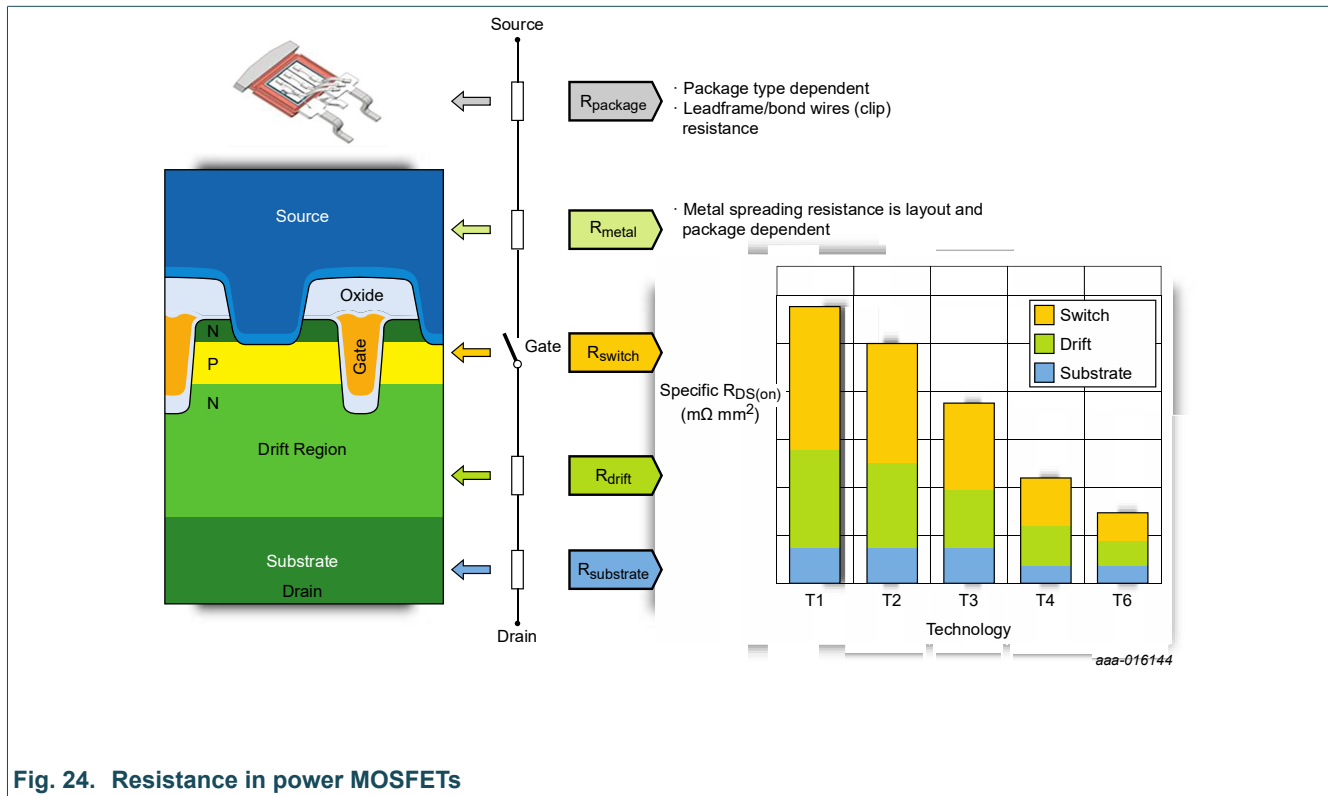

Fig. 24. Resistance in power MOSFETs
**A:** Drift engineering is optimizing of the drift region between the bottom of the trench and the epi/substrate interface (light green area). The drift region supports most of the drain-source voltage in the off state. The purpose of drift engineering is to reduce the resistance of the drift region while maintaining the drain-source breakdown voltage  $V_{(BR)DSS}$  capability (see Fig. 24).